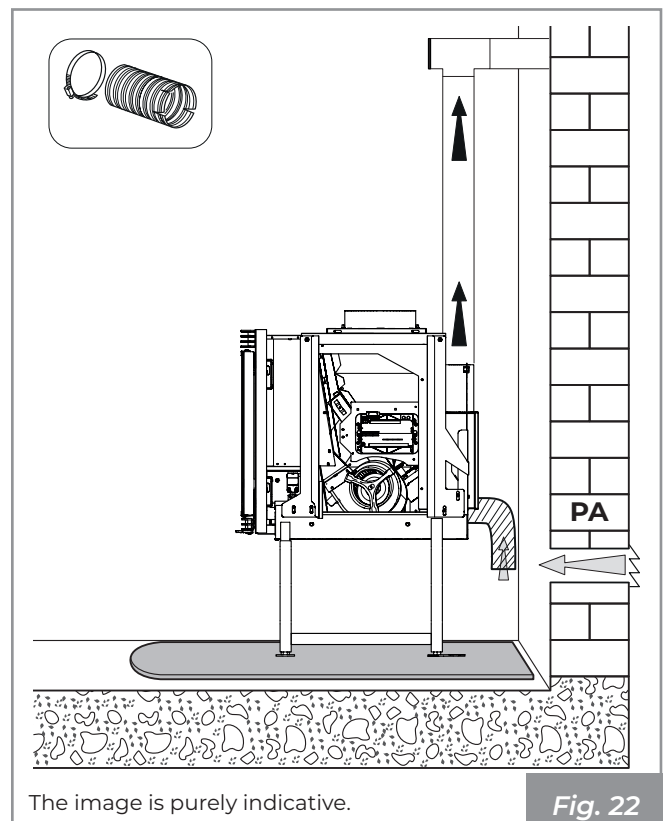

Fig. 22
- **Fig. 22:** make sure that the corrugated pipe provided is connected to the air intake pipe, securing it with the clamp and bending it slightly downwards to prevent any vibrations.